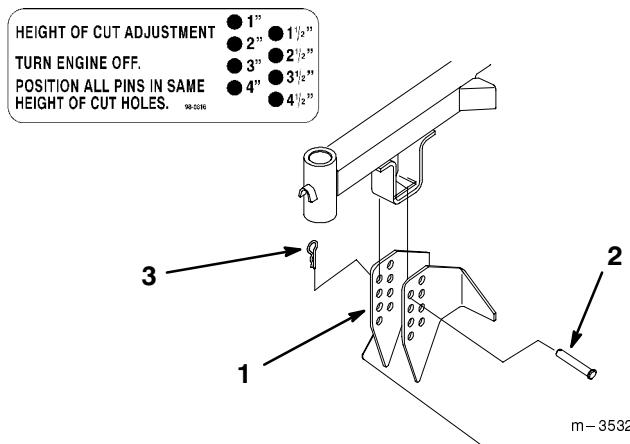

**Figure 7**
6. Rotate PTO drive shaft so holes in universal joint align with hole in gearbox shaft and slide together (Fig. 7).
7. Drive roll pin through hole in universal joint to secure PTO drive shaft to gearbox shaft (Fig. 7).
2. Drive roll pin through hole in universal joint to remove PTO drive shaft from gearbox shaft (Fig. 7).